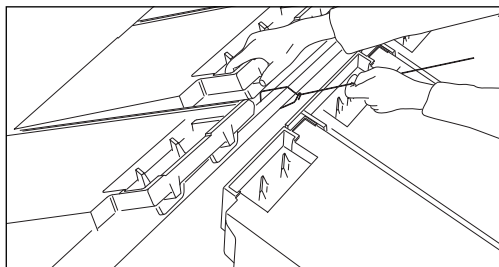

Fig 61 – Securing ridge wire to tiling batten
- 4 Fit the security ridge wire around the top course tile batten, ensuring that the end loop closes over the wire above the rectangular loop (Fig 61).